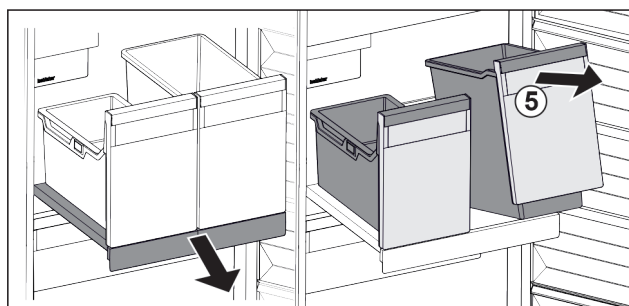

Fig. 29
- Lift the container Fig. 29 (5) at the front.